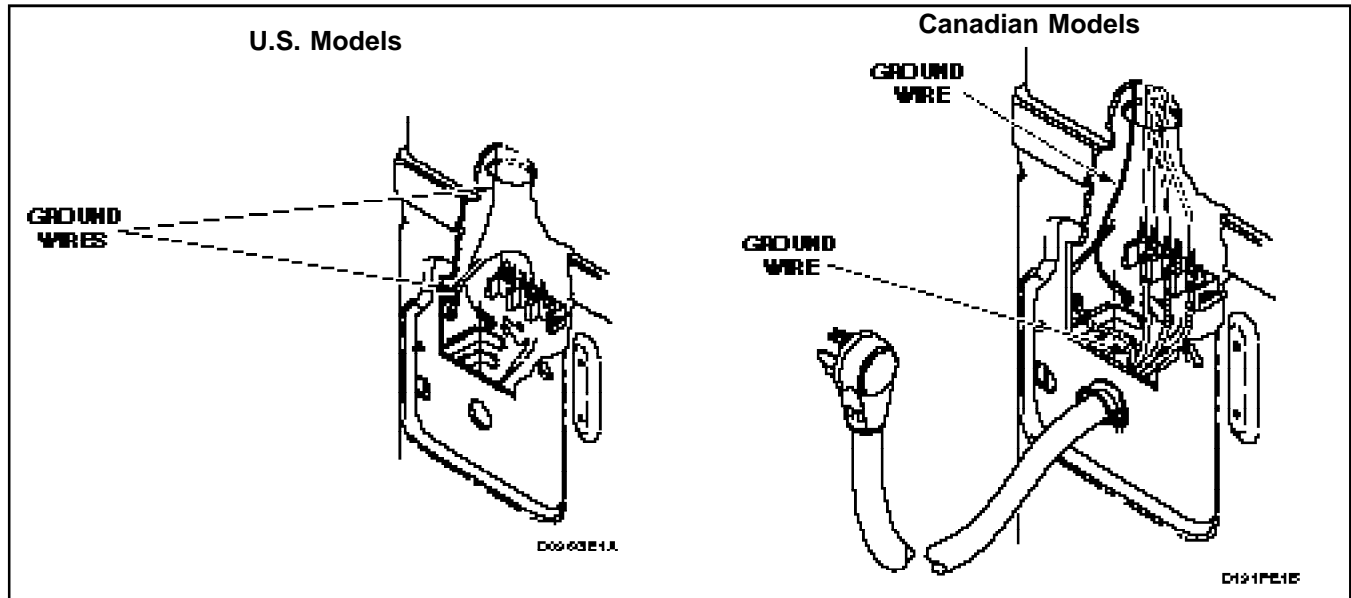

Figure 2
2. **NEUTRAL AT TERMINAL BLOCK TO REAR BULKHEAD AND FROM REAR BULKHEAD TO CONTROL HOUSING (Electric Models Only — Figure 2).**